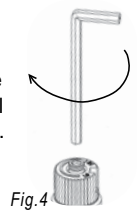

Fig. 4
- 15) Using the Allen wrench as shown in Fig.4, rotate the screw clockwise until snug, do not over tighten.